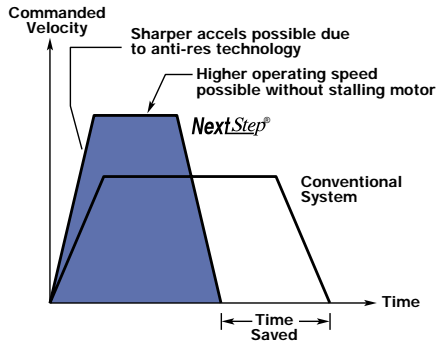

Figure 2. Higher acceleration rates and operating speeds result in better cycle times, higher through-put and better productivity.
- Highest acceleration/ deceleration rates possible from the Step Motor (see Figure 2)